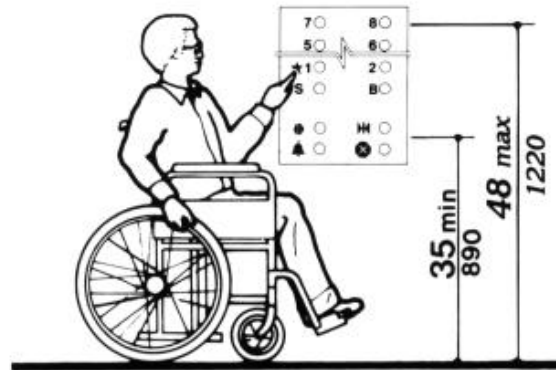

Figure 23(a)(b)
- d) All Tactile and Visual Control Indicators shall be designated by raised standard alphabet characters for letters, Arabic characters for numerals, or standard symbols as shown in Fig. 23(a) below.